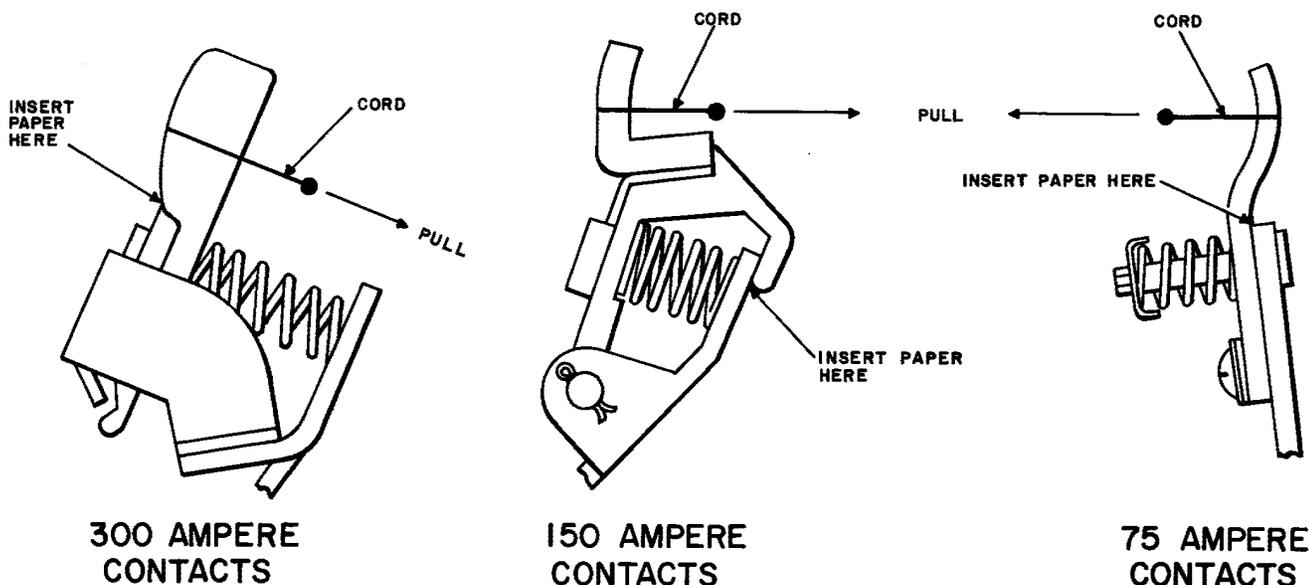

Fig. 37 — Measurement of Initial Contact Pressure
(1) To check the *initial pressure* of NO contacts of a contactor with the contactor in the released position, attach a short loop of cord around the movable contact and insert a small piece of KS-7187 bond paper in the contact assembly between the contact finger and support. See Fig. 37. Hook the gauge in the loop and pull away from the stationary contact. Observe the indication of the gauge at the instant the paper can be moved.
(2) To check the *final pressure* of NO contacts of a contactor, proceed as above with the contactor operated and the paper inserted between the contact surfaces. The contactor may be operated manually or electrically by means of a temporary connection to the operating coil. See that the contacts are not connected to the service voltage while being handled.
(3) To check initial and final pressure of NC contacts, proceed as above except the contactor should be operated when checking initial